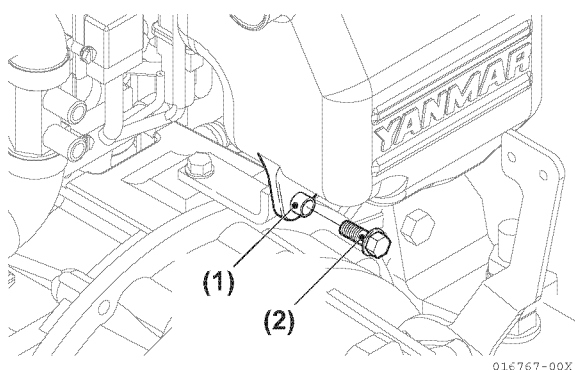

Figure 5-197
66. Insert the collar into the hole of silencer and fix to the bracket by bolt (Figure 5-197).